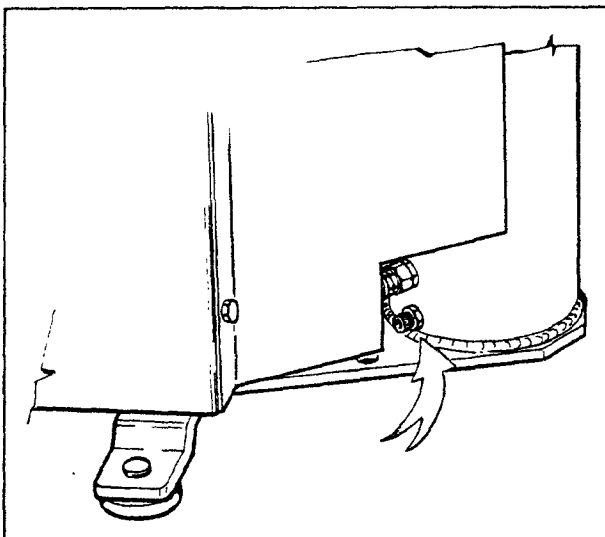

Fig.28
M. Drain water daily from the tank (Fig.28).